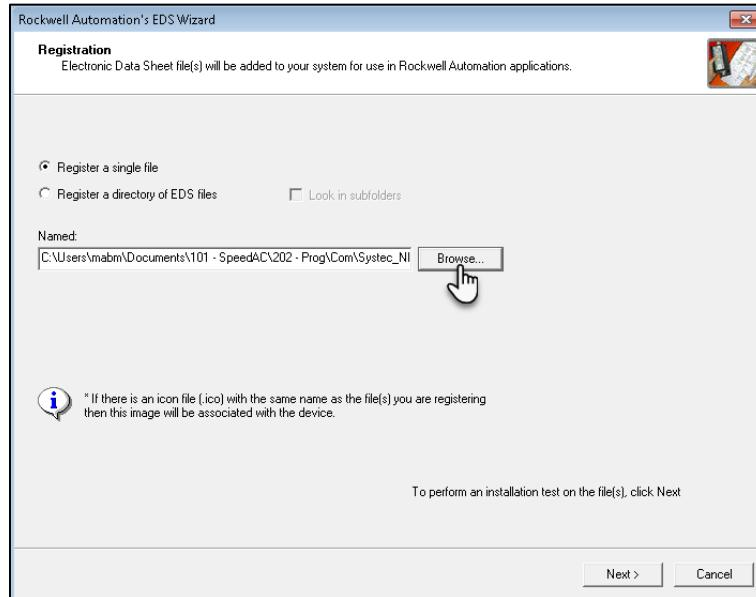

Figure 12: EDS File Browsing Location
- Browse the location of the EDS file on your computer (**Figure 12**).